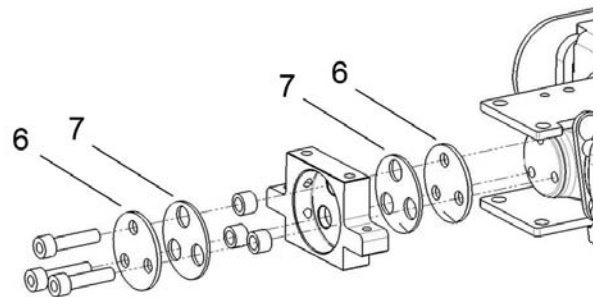

Fig. 4. Remove the three screws holding the actuator's washers and dampers.
5. Remove the three screws holding the actuator's washers and dampers. See fig. 4.